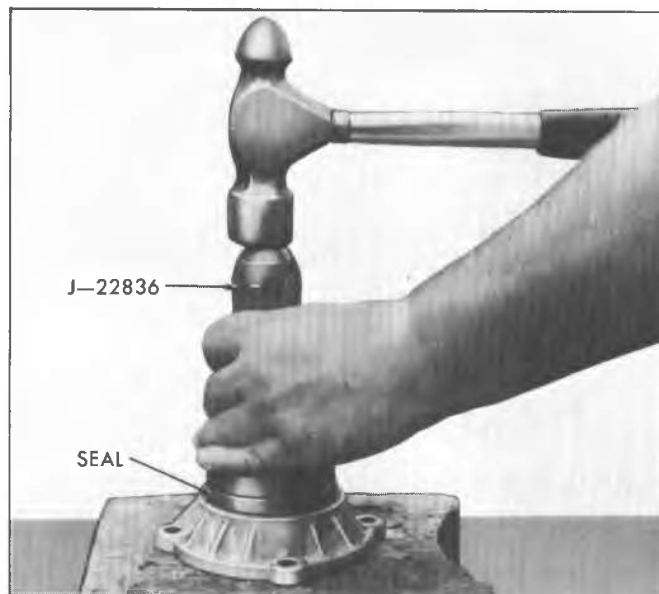

Fig. 7B-20S--Installing Front Output Bearing Retainer Seal
ASSEMBLY OF TRANSFER CASE (FIGS. 7B-1S and 7B-11S)
1. Place range box on blocks, with input gear side toward bench (Fig. 7B-21S).